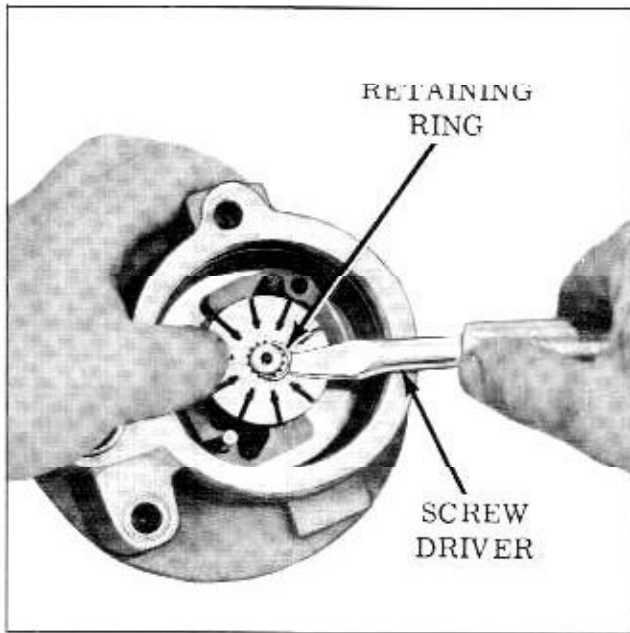

Fig. 4-60 Installing Rotor Snap Ring
4. Using a suitable tool, install shaft retaining ring. (Fig. 4-60)